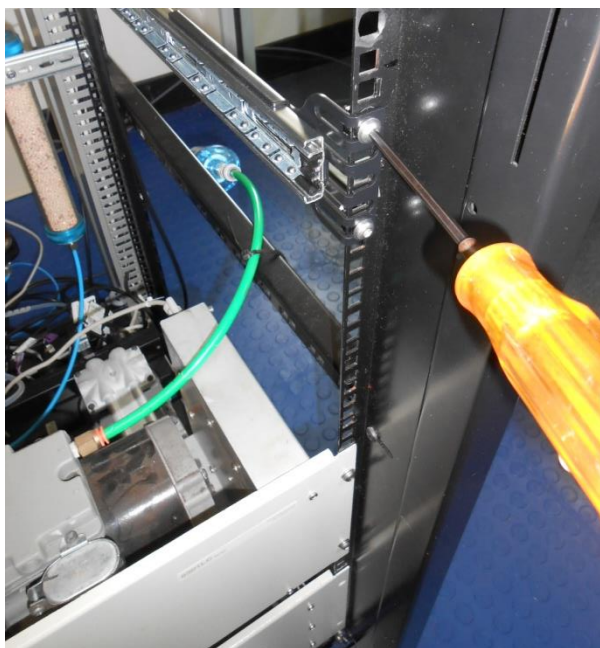

Figure 72 – Attach Slides to Front of Rack
7. Install the two assembled outer slide rails onto the left and right side of the rack securely with M6 bolts; washer and locknuts/cage nuts (refer to Figure 72).